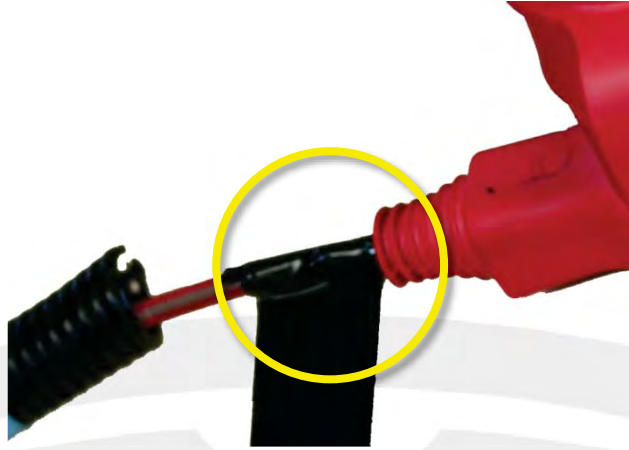

Figure 4
- At the base of the jump post, apply 3 wraps of electrical tape around the wire (Figure 4).